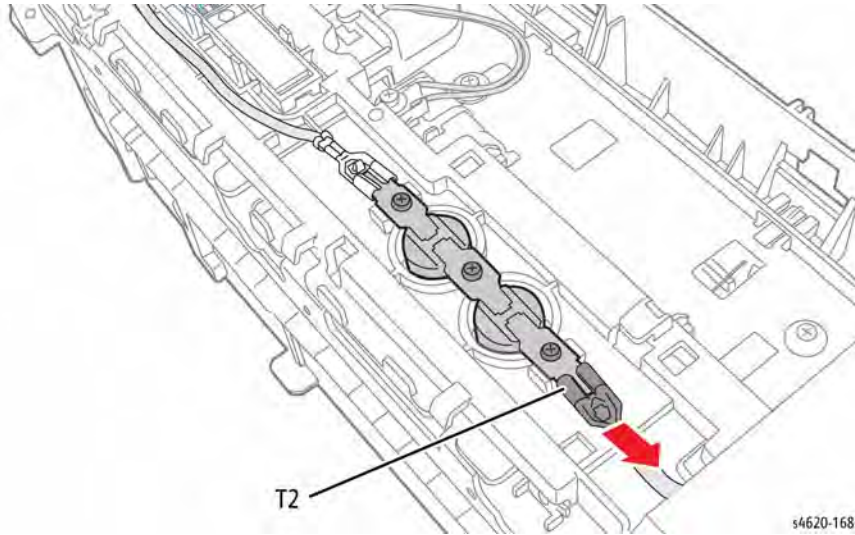

Figure 5 Disconnect the Thermostat
7. Disconnect 1 terminal from the Thermostat, Figure 5.